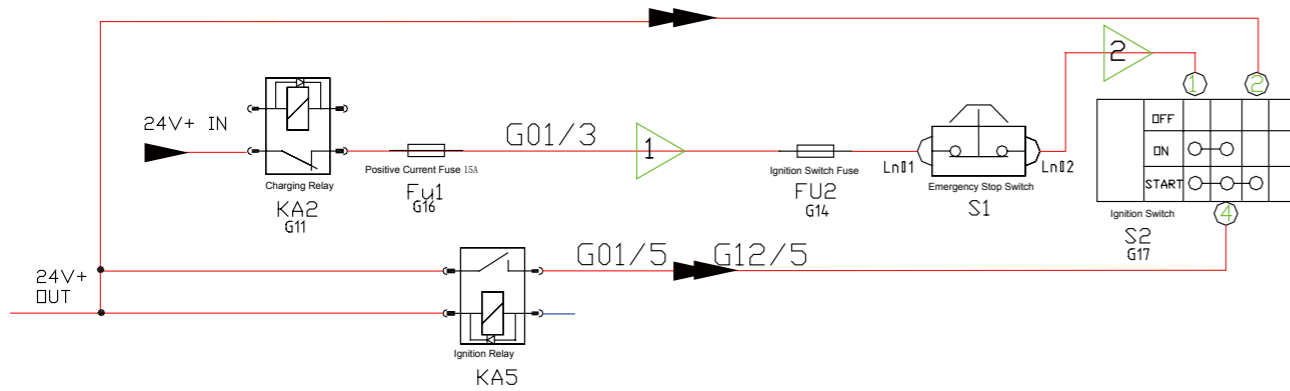

Fig. 1
- The battery's 24V positive pole—Charging relay KA2 contact—Positive current fuse FU1— Connector G01-3—Ignition switch fuse FU2—emergency stop switch S1—Ignition switch S1 first gear. As shown in Figure 1, the current trend direction is 1—2 ( Ignition switch S1 first gear ) .